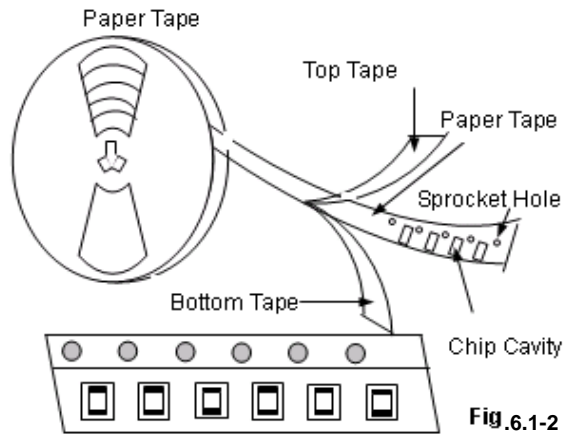

Fig.6.1-2
- a. Tape carrier packaging are specified in attached figure Fig.6.1-1~4 (Fig.6.1-1, 10nH and below with mark; Fig.6.1-2, 12nH and above without mark)